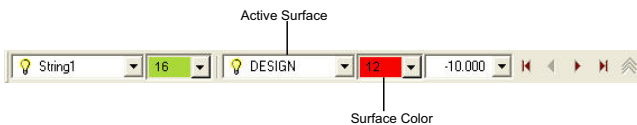

Figure 18-53. Properties Toolbar
1. Choose the design surface on the **Properties** toolbar, and then select the required cross section in the Cross Section pane (Figure 18-53).